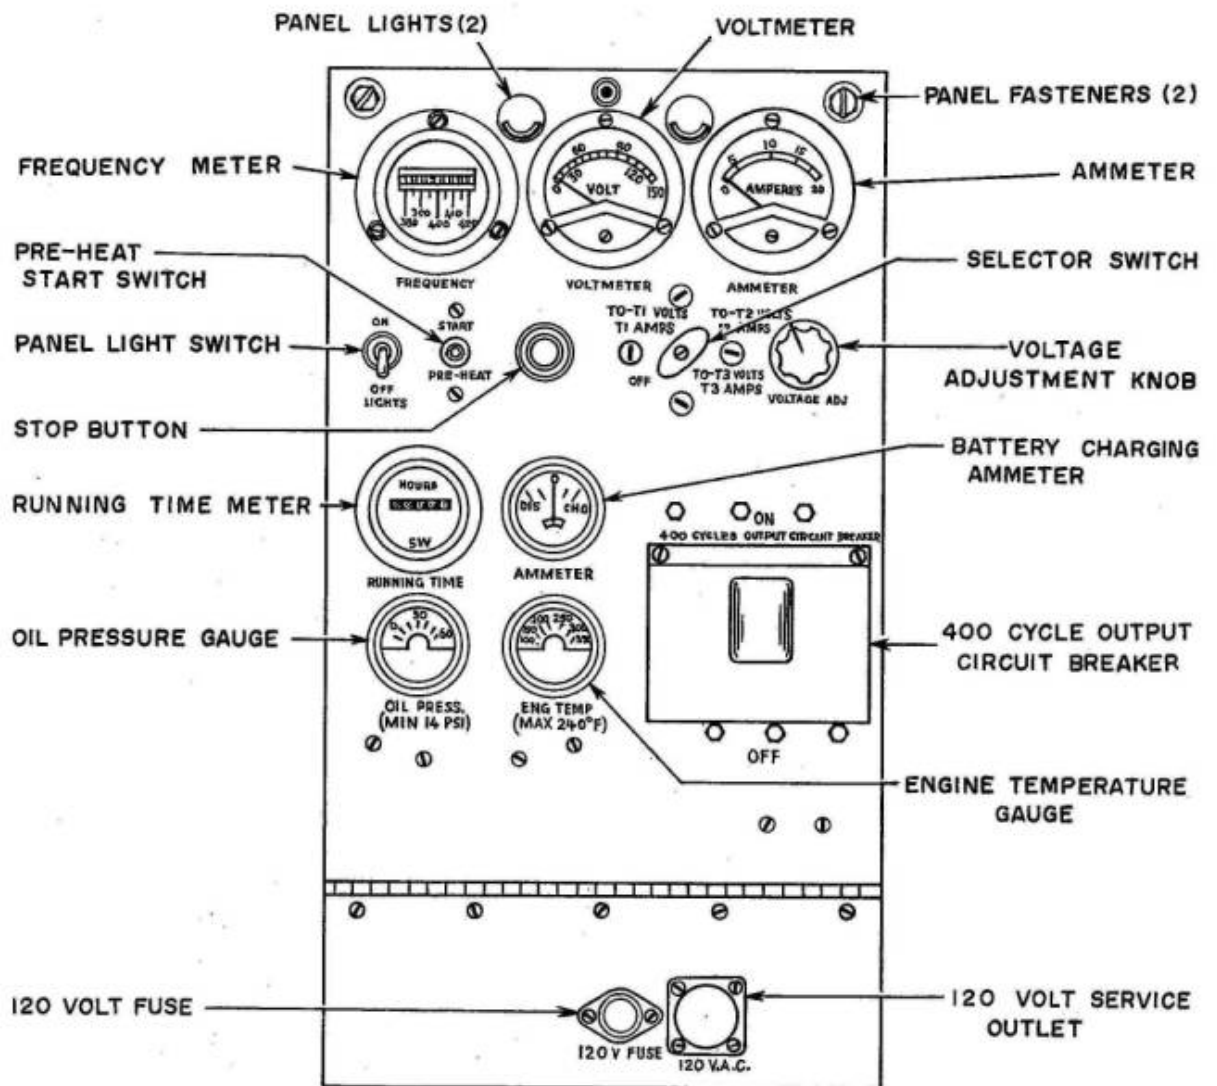

FIG 43 - CONTROL PANEL
309. The engine-generator controls located on the control panel (with the exception of the fuel tank indicator) are shown in Fig 43 and listed below:-
- (d) Place the PRE-HEAT, START switch in the PRE-HEAT position (see Fig 43). Hold in this position for two minutes.